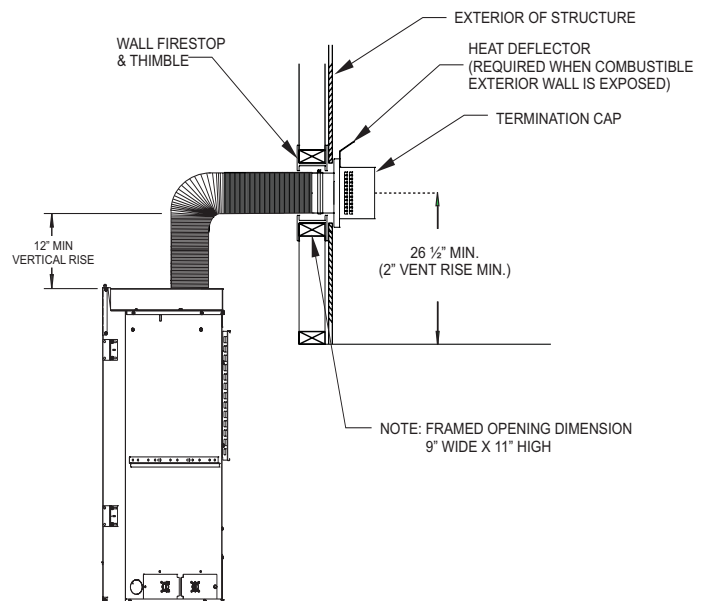

**Figure 71**
- Secure the termination cap to the house exterior using four 1/8 x 3 inch long screws. Be sure to install the Deflector Shield with the two screws at the top of the termination base. **See Figure 71.**